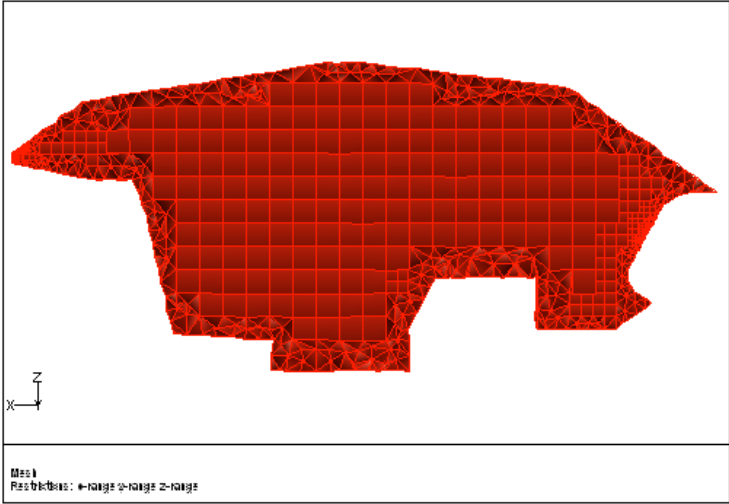

Figure 5.9: Slide of Cells at $y = 50$ for the Hexcore Mesh With Buffer Layers = 0
3. Display the slide of cells at $y = 50$ and $y = -525$ (Figures 5.9 and 5.10).